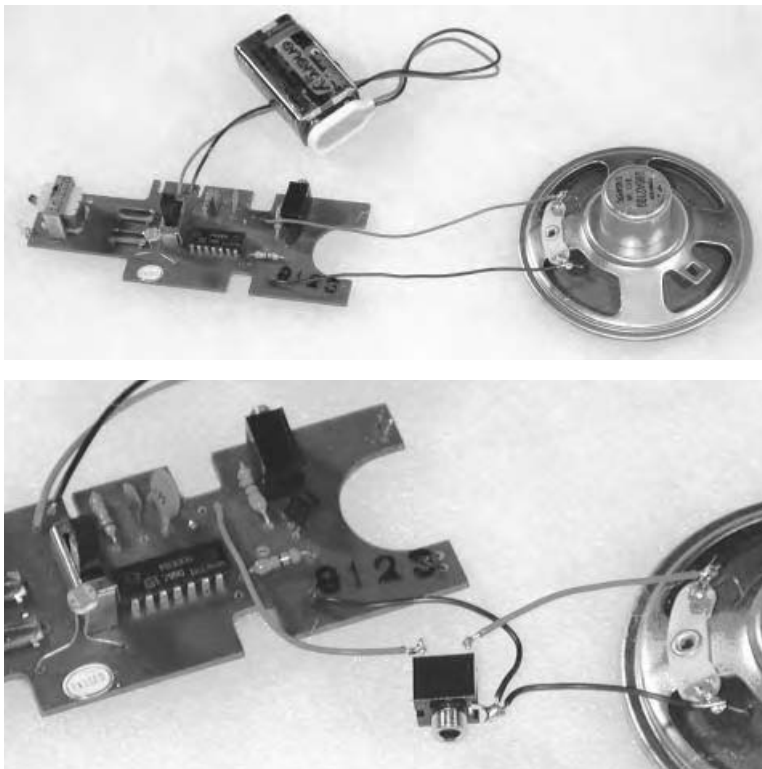

Figure 17.2 Wiring a cut-out jack.
You may have noticed that most audio devices with built-in speakers and jacks for headphones switch off the speaker automatically when the headphone plug is inserted. This is accomplished with what is known as a “cut-out jack,” which can be purchased at any retailer carrying electronic connectors. The jack’s terminals will be designated “tip” or “hot,” “sleeve” or “ground,” and “normally closed” (NC)—like the switches we discussed in the previous chapter. You wire it as shown in figure 17.2.